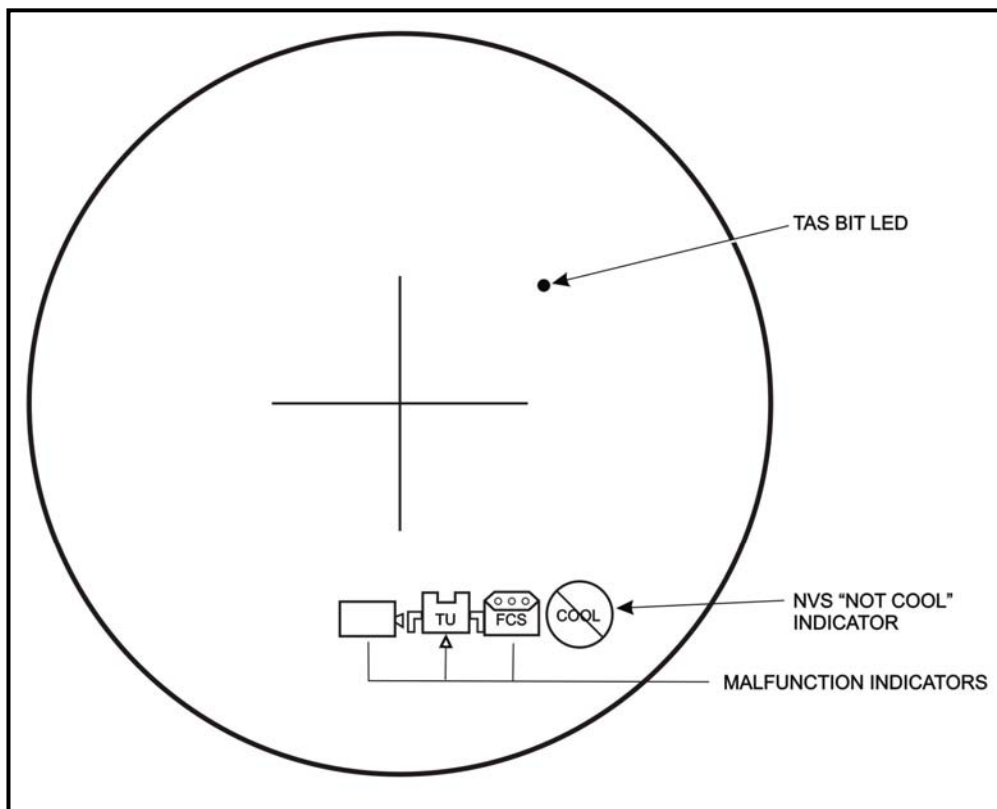

Figure 2-27. Malfunction indicators.
(4) **Malfunction Indicators.** These indicators are NOT normally on during system operation (Figure 2-27). If, however, one of the systems built-in-tests finds a faulty component, the appropriate indicator will light on the TAS display.